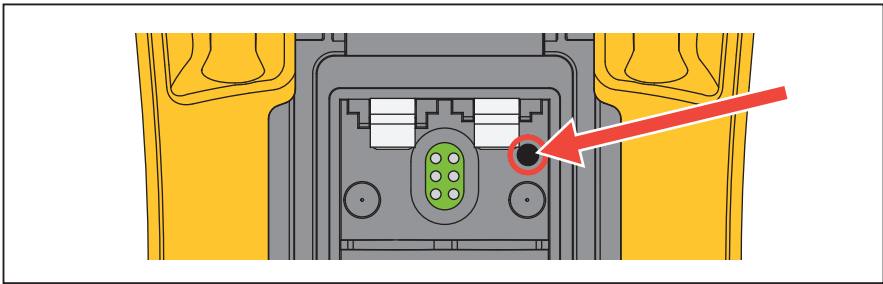

Figure 6. Temperature Adjustment for 17B+
- a. Use an adjustable potentiometer to make a manual adjustment. See Figure 6.